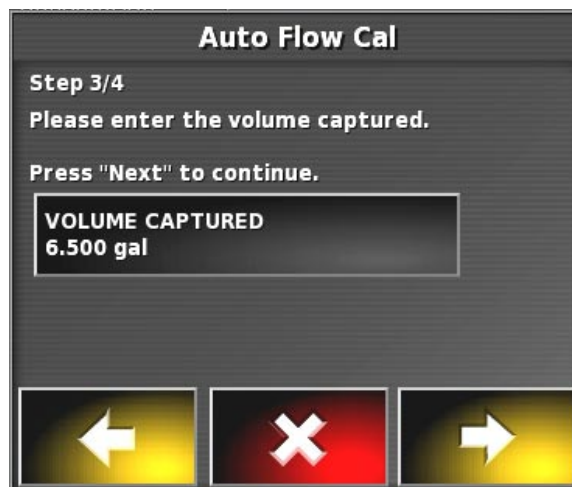

Figure 8.50 - Liquid Calibration Wizard - Screen 3
4. Refer to *Figure 8.50*. Measure the volume. Select **Volume Captured** button and using calculator enter the value. Proceed to the next step.